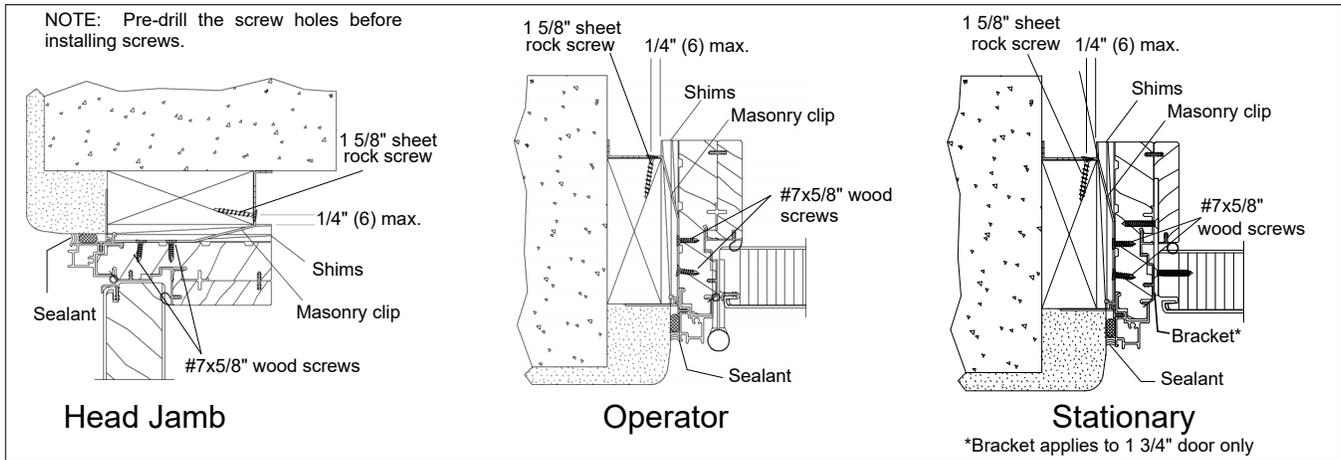

Figure 2 Illustration shows masonry application but applies to wood also. Fastening locations apply to both 1 3/4" door and 2 1/4" door.
plumbed, and squared, wrap clip to the interior around wood buck, predrill two 5/32" (4) holes, and fasten with 1 5/8" (41) sheet rock screws, 2 per clip. The screws must be placed no greater than 1/4" (6) from the edge of the wood buck with the rough opening a maximum of 1/2" (13) gap at point of attachment. Angle the screws a minimum of 15 degrees towards the thicker part of the buck. See figure 2 .